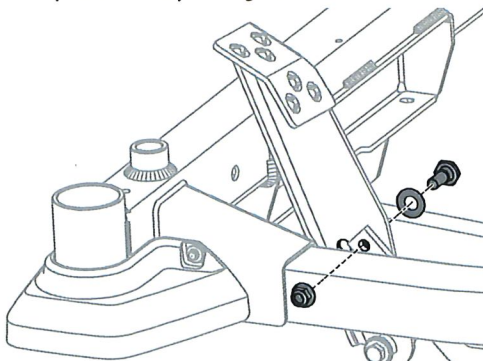

Figure 28
2. Remove the hex bolt, washer and hex nut near the center of the pedal assembly. See Figure 28.
4. Re-install the hardware previously removed and torque the nut to 28-35 ft-lbs (38-47 N-m). See Figure 28.